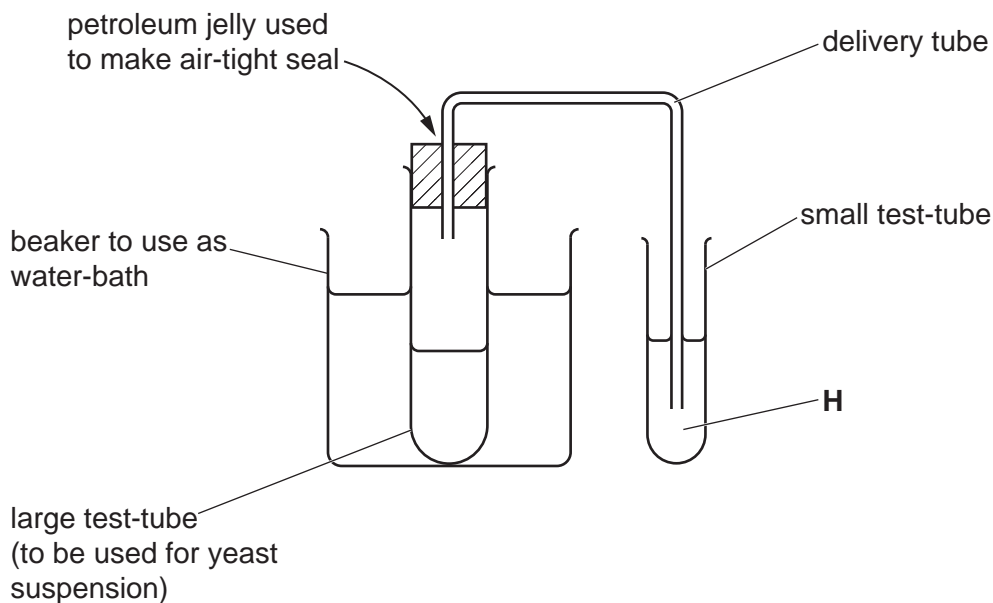

Fig. 1.1
Fig. 1.1 shows the apparatus you will set up for the investigation.
12. Put the bung in the large test-tube, and make sure the end of the delivery tube is in **H**, as shown in Fig. 1.1.
17. Put another test-tube of **H**, prepared in step 7, into the apparatus shown in Fig. 1.1.